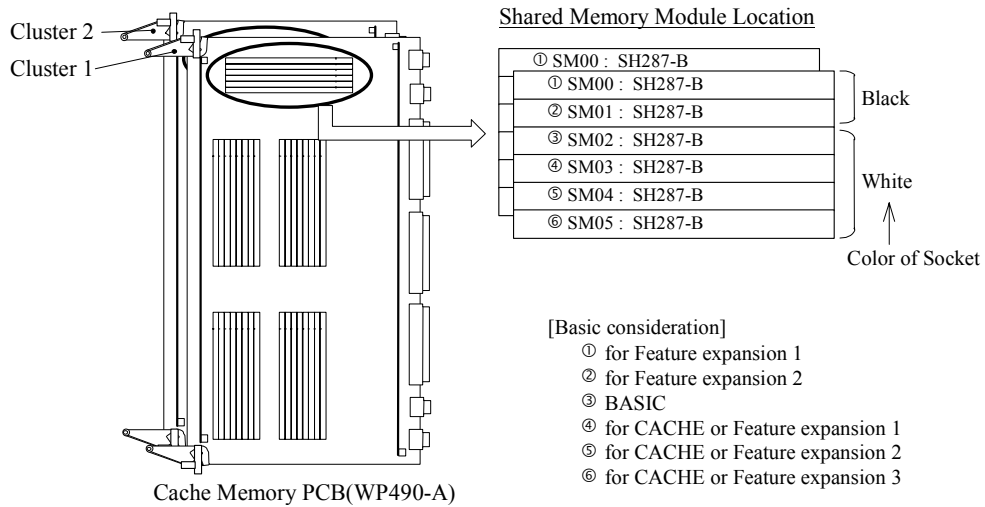

Fig. 1.1.2.3-1 Location of shared memory module
Note. *1: Location ①-⑥ shows actual location of shared memory module on Cache PCB. (Refer to Fig. 1.1.2.3-1)